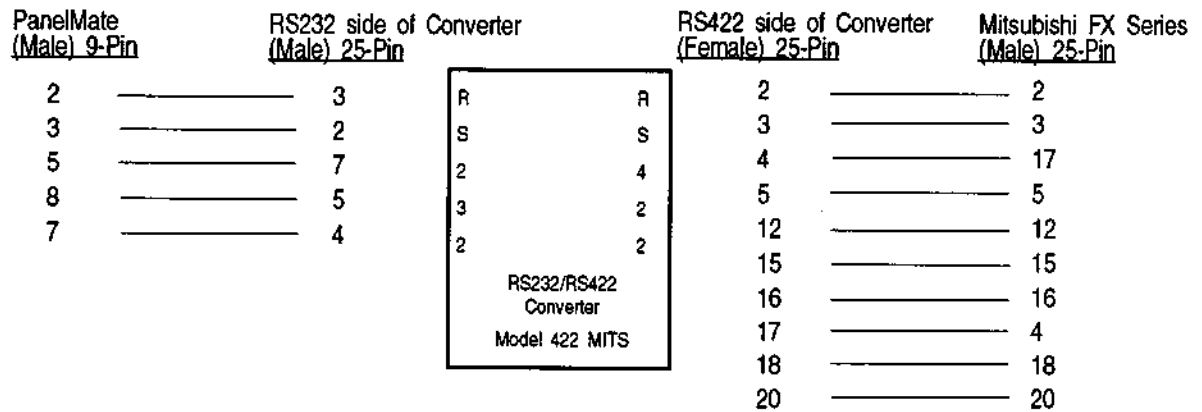

Figure 33-7 RS232/RS422 Converter Cabling for the Mitsubishi FX Series PLCs
**Note** An RS422 cable is required. For pinout information, refer to figure 33-7.